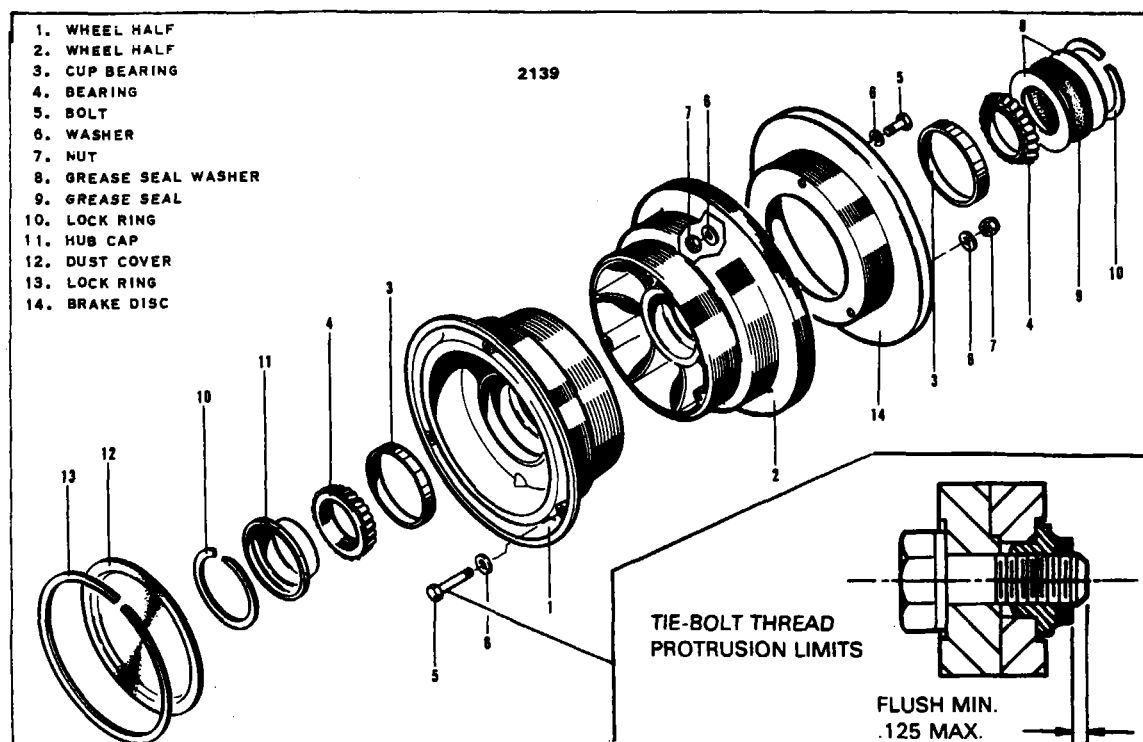

Figure 7-22. Main Wheel Assembly
- 7-53. REMOVAL AND DISASSEMBLY OF MAIN WHEEL. (Refer to Figure 7-22.)
- d. Remove the lock ring (13) that secures the dust cover (12) and the lock ring (10) securing the hub cap (11). Remove the cotter pin and axle nut. Slide the wheel off the axle.
- e. The wheel may be disassembled by deflating the tire and removing the lock ring (10) securing the grease seal (9) and seal washers (8) from the inner wheel half (2). Remove the bearing cones (4) and loosen and remove the bolts securing the wheel halves. The bearing cups (3) should be removed only for replacement and may be removed by tapping evenly from the inside.
7-54. INSPECTION OF MAIN WHEEL ASSEMBLY. (Refer to Figure 7-22.) It is advisable to clean the assembly thoroughly before inspection. Degrease all parts and dry thoroughly. A soft bristle brush may be used to remove hardened grease, dust or dirt.
7-55. REPAIR OF MAIN WHEEL ASSEMBLY. (Refer to Figure 7-22.) Repairs to the main wheel assembly are limited to blending out small nicks, scratches, gauges and areas of slight corrosion, plus the replacement of parts which are cracked or badly worn or corroded.
7-56. ASSEMBLY AND INSTALLATION OF MAIN WHEEL. (Refer to Figure 7-22.)
Visually inspect thread protrusion on assembled and torqued wheel assembly. Thread protrusion should be flush to .125 maximum. Bolts that are below flush or beyond maximum should be replaced with P/N AN4-7A tie bolt (Refer to figure 7-22).